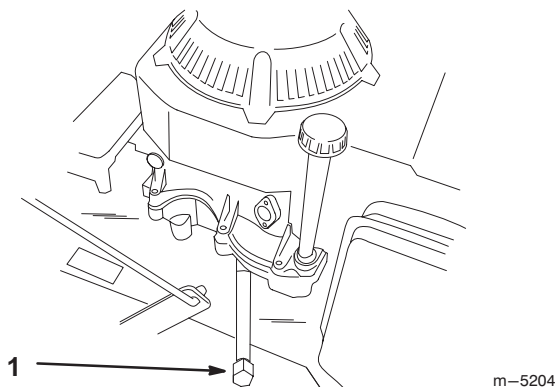

Figure 22
3. Place a pan below the oil drain. Remove the oil drain cap (Fig. 22).